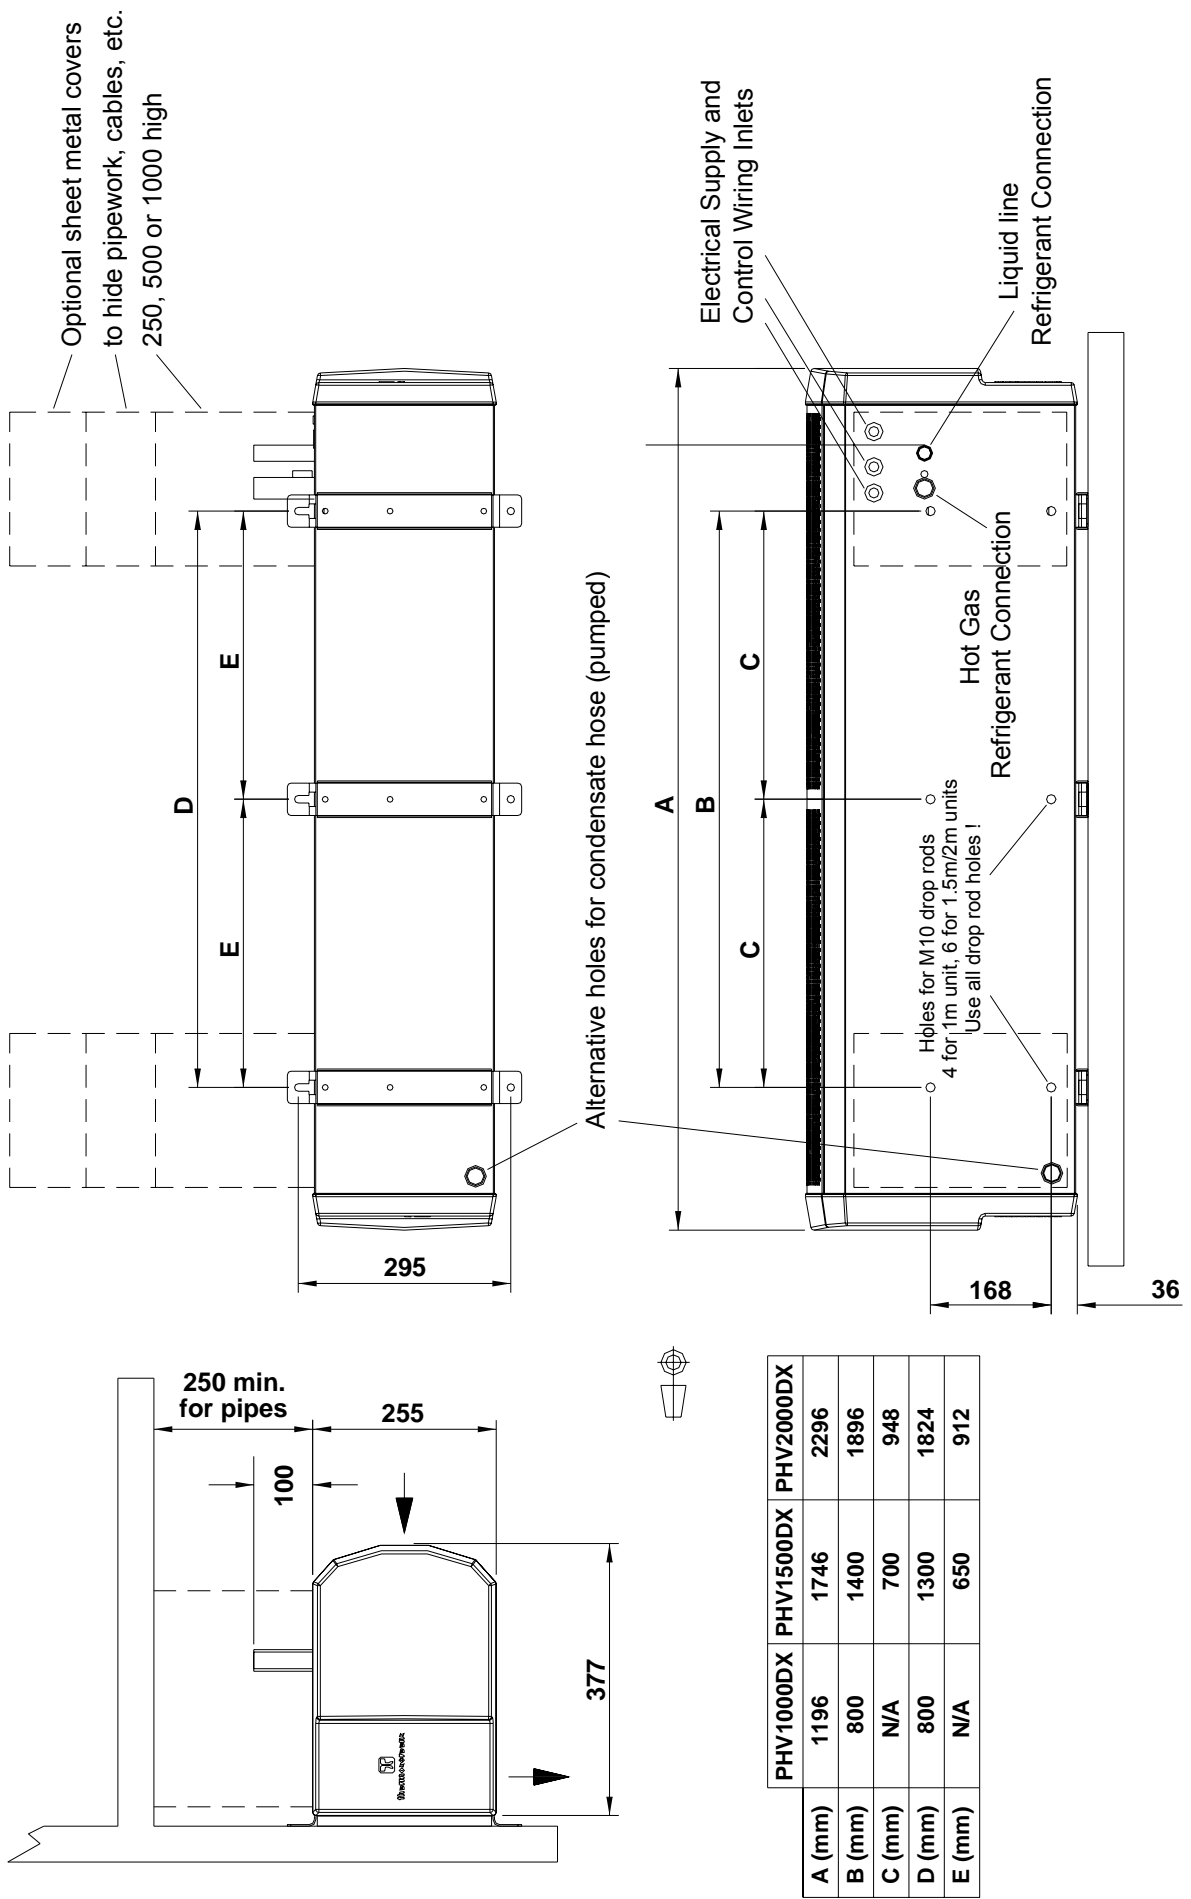

FIGURE 1 – DIMENSIONS OF PHV HEAT PUMP AIR CURTAIN
Step 1. Refer to Figure 1 for mounting details and drill the fixing points in the wall.
M10 threaded inserts are provided in the top face of the unit (see Figure 1 for positions) so it can be suspended on M10 threaded hanging rods (not provided). All suspension points must be used. Ensure each of the hanging rods is secured onto a suitable structure that can support the weight of the unit (see table above)*. Screw the hanging rods into the inserts by a minimum of 20mm and fit locking nuts (not supplied) to prevent the rod rotating and coming away from the casing. Do not screw hanging rods too far in or they could interfere with internal components.
The air curtain is supplied with a 1m length of 12mm bore plastic hose ready fitted to the outlet spout of the drain tray. The plastic hose can be found curled up inside the air curtain at the right hand side of the unit. There are two condensate outlet holes in the casing, one at the top of the unit and one at the rear, both fitted with rubber plugs (see Figure 1, Page 9). The plastic hose should be pushed through one of the these holes after removing the plug and connected to the condensate pump using the adapter supplied with the pump. It may
Optional sheet metal covers are available to hide the various services that enter the air curtain from above. They are available in sizes of 250mm, 500mm and 1000mm high and are supplied flat packed for assembly on site. The sheet metal covers are secured to the top of the air curtain via M6 screws into threaded inserts. They hide hanging rods and all other services such as pipework, cables, condensate pump, hoses, optional fan speed controller, etc. Two covers can be fitted to PHV1000 units and three to PHV1500 and PHV2000 units (see Figure 1, Page 9)